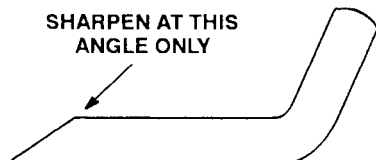

Figure 15
- Inspect cutting edges of all blades. Sharpen the cutting edges if they are dull or nicked. Sharpen only the top of the cutting edge and maintain the original cutting angle to make sure of sharpness (Fig. 15). The blade will remain balanced if same amount of metal is removed from both cutting edges.